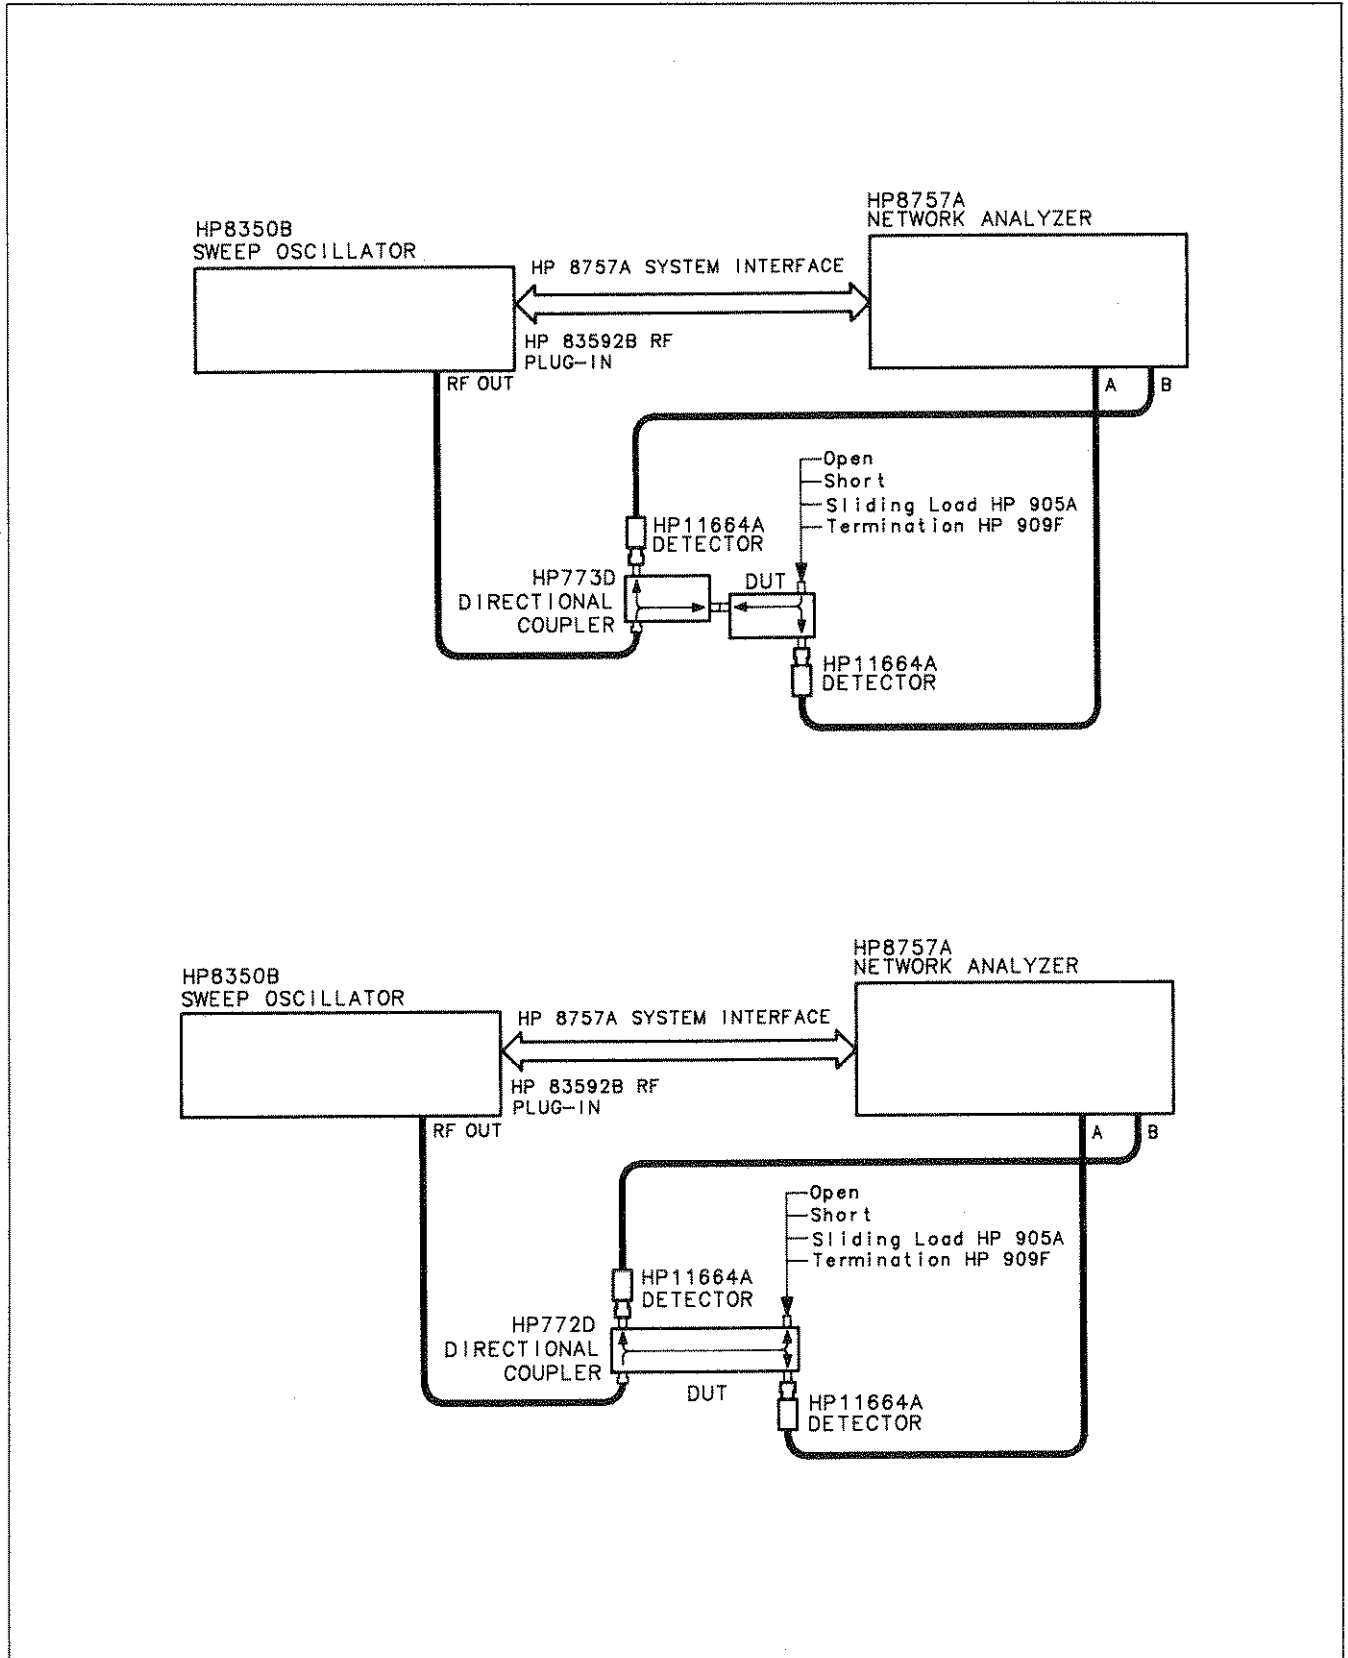

Figure 10. HP 772D/773D Performance Test Setup
Figure 10 shows the test setup used for the subsequent performance tests. To account for frequency response errors and calibrate your test setup, perform the following procedure.
1. Connect your HP 772D or HP 773D to the test equipment as shown in Figure 10.
1. Connect the fixed termination as shown in Figure 10.
3. Connect the sliding load as shown in Figure 10. At frequencies of interest, phase (move) the load element. Read the peaks and troughs and calculate the difference in dB (ΔD_{dB}). Find the appropriate correction factor ($D_{c_{dB}}$) from Table 4.